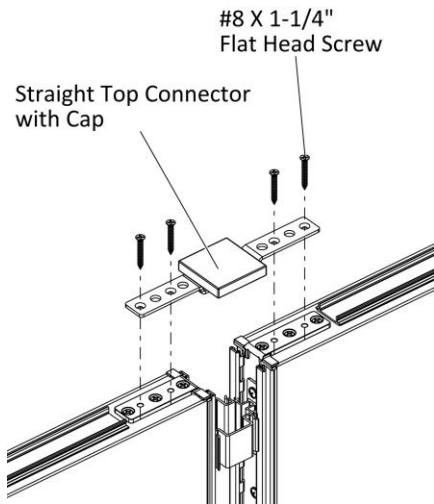

Figure 9
- 16.** Securely fasten the straight top connector with cap into the panels with four #8 X 1-1/4" Flat Head Screws, (Figure 9).